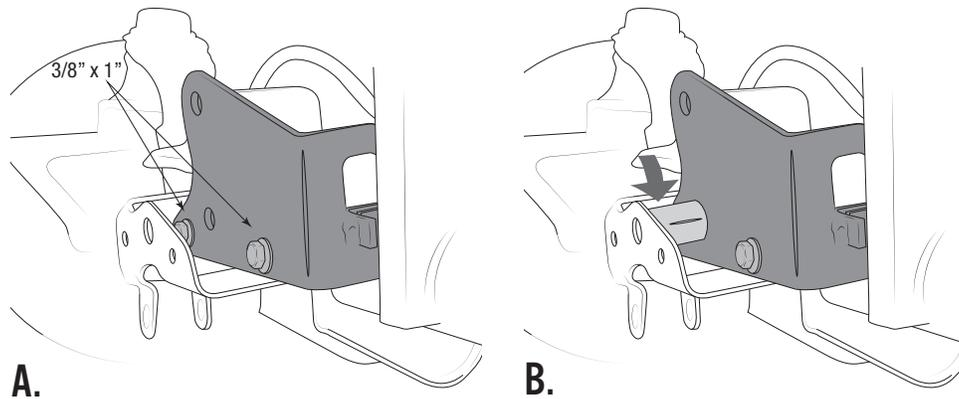

Figure 20
- A. Place bracket with “half moon” cutouts inside the original front track bar bracket and over the axle tube (Fig. 20-A). Insert two of the supplied $3/8" \times 1"$ L bolts and washers through the small holes in the bracket and the corresponding holes in the stock bracket, then add nuts and hand tighten.
- C. Insert the supplied spacer tube between stock track bar bracket and new bracket (Fig. 20-B), lining it up with the original track bar bolt hole. (This may require slight prying or tapping with a hammer.)